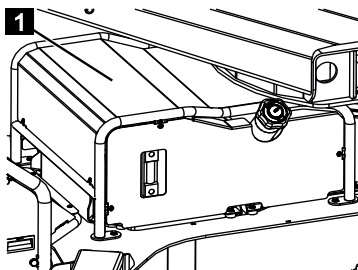

Fig. 239
11. Screw the cover (Fig.239/1) back on.